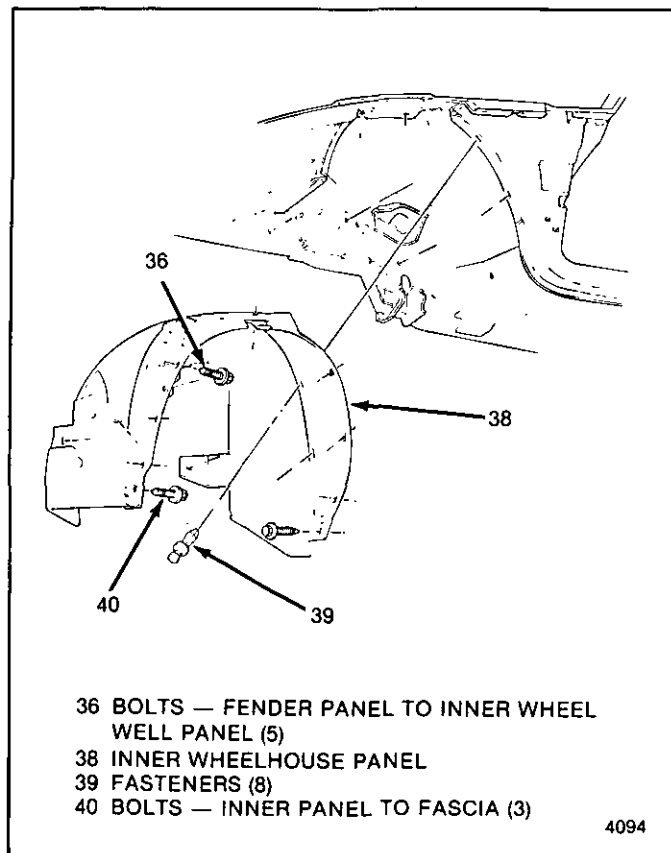

Fig. 8-Wheelhousing Panel Attachment
**↔** Remove or Disconnect (Figure 8)
- Fender panel (36)
- Chassis (39)
- Fascia (40)
**↔** Install or Connect (Figure 8)